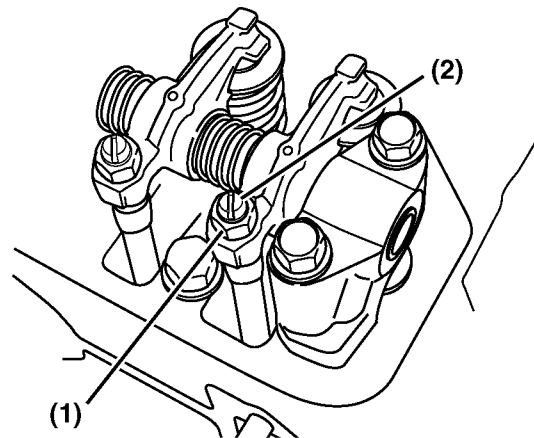
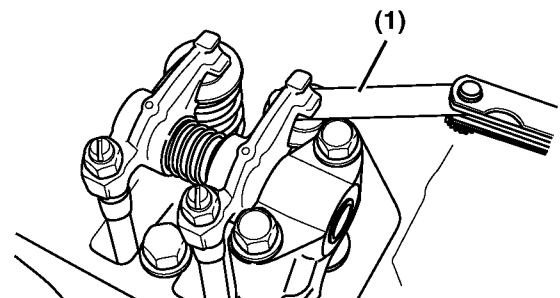

Figure 6-78
Figure 6-79
5. Loosen the valve adjusting screw lock nut (**Figure 6-78, (1)**) and valve adjusting screw (**Figure 6-78, (2)**) on the rocker arm and check the valve for inclination of the valve cap, entrance of dirt, or wear.
6. Insert a feeler gauge of the correct thickness (**Figure 6-79, (1)**) (see *Adjustment Specifications* on page 6-4) between the rocker arm and valve cap. Turn the valve adjustment screw to adjust the valve clearance so there is a slight “drag” on the feeler gauge when sliding it between the rocker arm and the valve cap. Hold the adjusting screw while tightening the valve adjusting screw lock nut (**Figure 6-78, (1)**). Recheck the clearance.